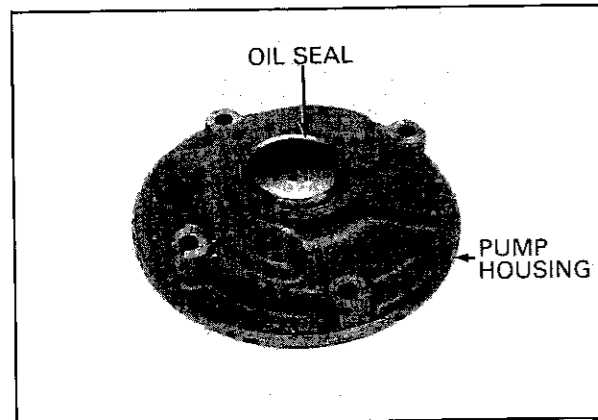

FIG. 47 PUMP OIL SEAL INSTALLATION
56. Press an oil seal into the pump housing. Position the seal to where the front face of the seal is flush with the front face of the pump (Fig. 47).